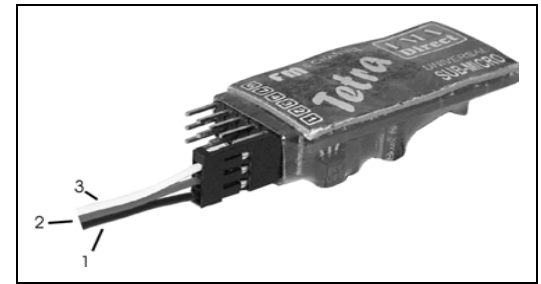

Figure 1
WARNING: IF YOU INTEND TO INTERFACE AIRTRONICS SERVOS THAT USE "OLD STYLE" (PRE-"Z TYPE") AIRTRONICS CONNECTORS TO THE TETRA, YOU MUST UPDATE THE CONNECTOR TO THE CURRENT INDUSTRY STANDARD POLARITY (SEE FIGURE 1) AND PROPER INDUSTRY STANDARD SHELL THICKNESS. YOU MAY READILY CONVERT YOUR EXISTING "OLD STYLE" AIRTRONICS CONNECTORS TO CURRENT STANDARDS 1) BY INSTALLING APPROPRIATE ADAPTERS OR 2) BY REMOVING THE OLD CONNECTORS AND PINS AND REPLACING THEM WITH FMA PART NUMBER SEASSYJ. EACH SEASSYJ CONTAINS ONE JR COMPATIBLE MALE SHELL AND 3 FEMALE PINS. YOU WILL NEED TO CRIMP THE PINS AND SOLDER THEM TO THE WIRES OF YOUR EXISTING SERVO AND PLUG THEM INTO THE SHELL PROVIDED. MAKE CERTAIN THAT THE RED WIRE (+V) GOES TO THE CENTER PIN AS ILLUSTRATED IN FIGURE 1. FMA WILL NOT ACCEPT RESPONSIBILITY FOR ANY ATTEMPT TO USE "OLD STYLE" AIRTRONICS CONNECTORS THAT DO NOT HAVE THE POLARITY CHANGED TO INDUSTRY STANDARDS.
4. When hooking up servos to your receiver, use TABLE 1 and FIGURE 1 to check its plug wire color orientation. Note: with the receiver sitting label side up, the signal lead (marked #3 in FIGURE 1 and color coded as in TABLE 1) must match up to the pin closest to the label side of the receiver. No damage will occur by plugging a servo in backwards (reversing shell 180°), but the servo will not operate. Your Tetra series